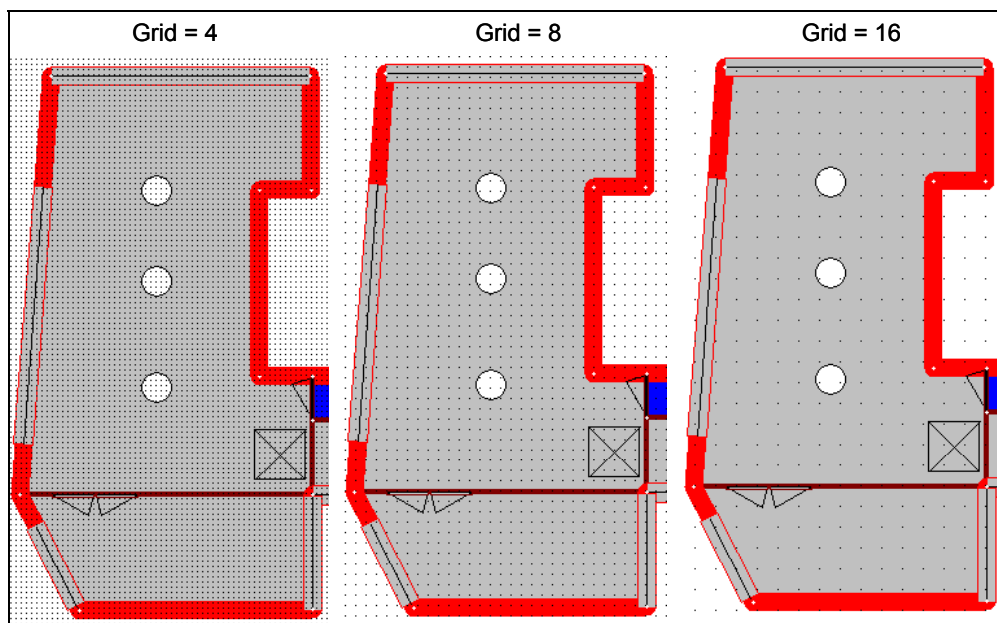

Figure 60: Using different grid settings
- A grid defines "**gravity**" points, used when drawing walls, pipes (see chapter 3, Selecting Air Conditioning Devices) or ducts (see chapter 4, Designing a Ventilation Strategy). Instead of drawing a smooth line, a line point is "attracted" to the closest grid point. "**Use grid**" activates the grid and "**Show grid**" displays it as in Figure 60: